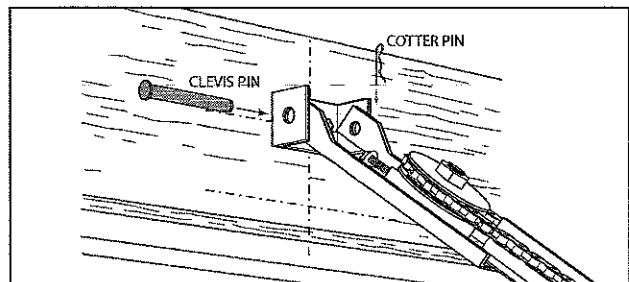

FIG. 2-5 Rail mounting to header bracket.
- Support power head on step-ladder to prevent interference with header mounted spring (Fig. 2-5).